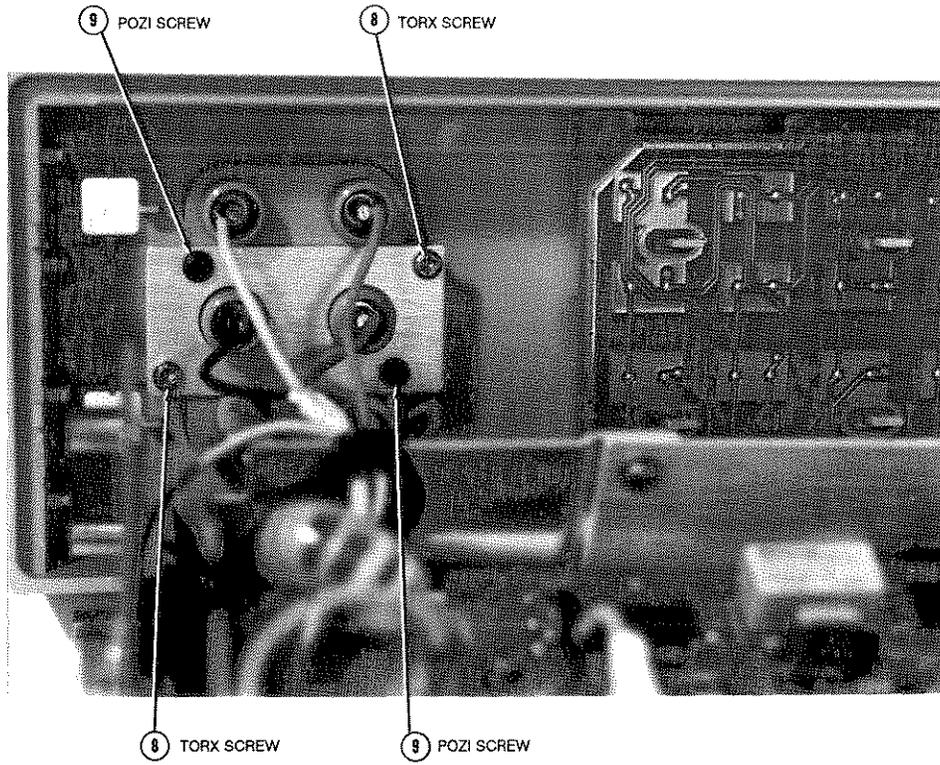

Figure 3-19. Remove/Install Screws on Front Terminals
11. Refer to Figure 3-19. Use the #TX10 Torx driver to remove the two Torx screws from the front terminals. Then use a #1 Pozidriv screwdriver to remove the two pozi screws from the front terminals. This removes the front terminals from the Front Panel assembly.
6. Refer to Figure 3-19. Use the #TX10 Torx driver to install the two Torx screws on the front terminals. Then use a #1 Pozidriv screwdriver to install the two pozi screws on the front terminals.